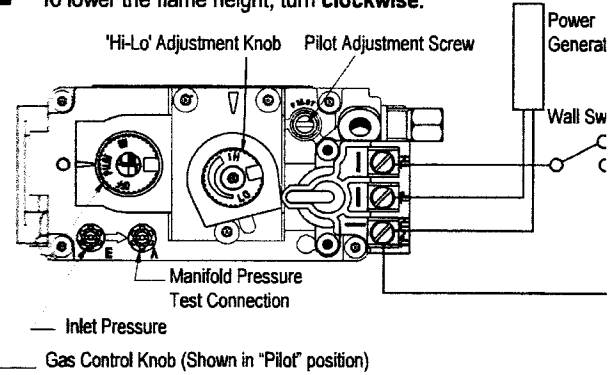

Figure 33. 'Hi-Lo' Adjustment on the SIT Nova 820 gas valve,
1. Locate Pilot Adjustment Screw. (See **figure 33 or 34**.)
Pilot won't ignite	Disconnect remote wires and try to light pilot. If pilot now works, remote connections are faulty. Check wiring diagram figure 33 .
Main burner will not light	1. Check wiring (see figure 33). 2. Check wall switch for proper connection.